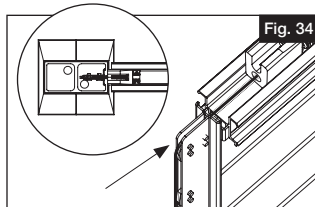

Fig. 34
- b. Make sure the cable is rounding the last turn of the guide by looking down the post (Fig. 34). Pull all slack through the tensioner. Also ensure the tension spring stays in place in the beam at the post before pulling tight.
- 7.** Pre-tension cable on guide A and B by pulling as much slack through the locker by hand (Fig. 35). Make sure the cable is rounding the last turn of the guide by looking down the post (Fig. 34).
Wearing a glove may help while pre-tensioning. Ensure the cable is centered in the cable guide while pulling tight (Fig. 34).